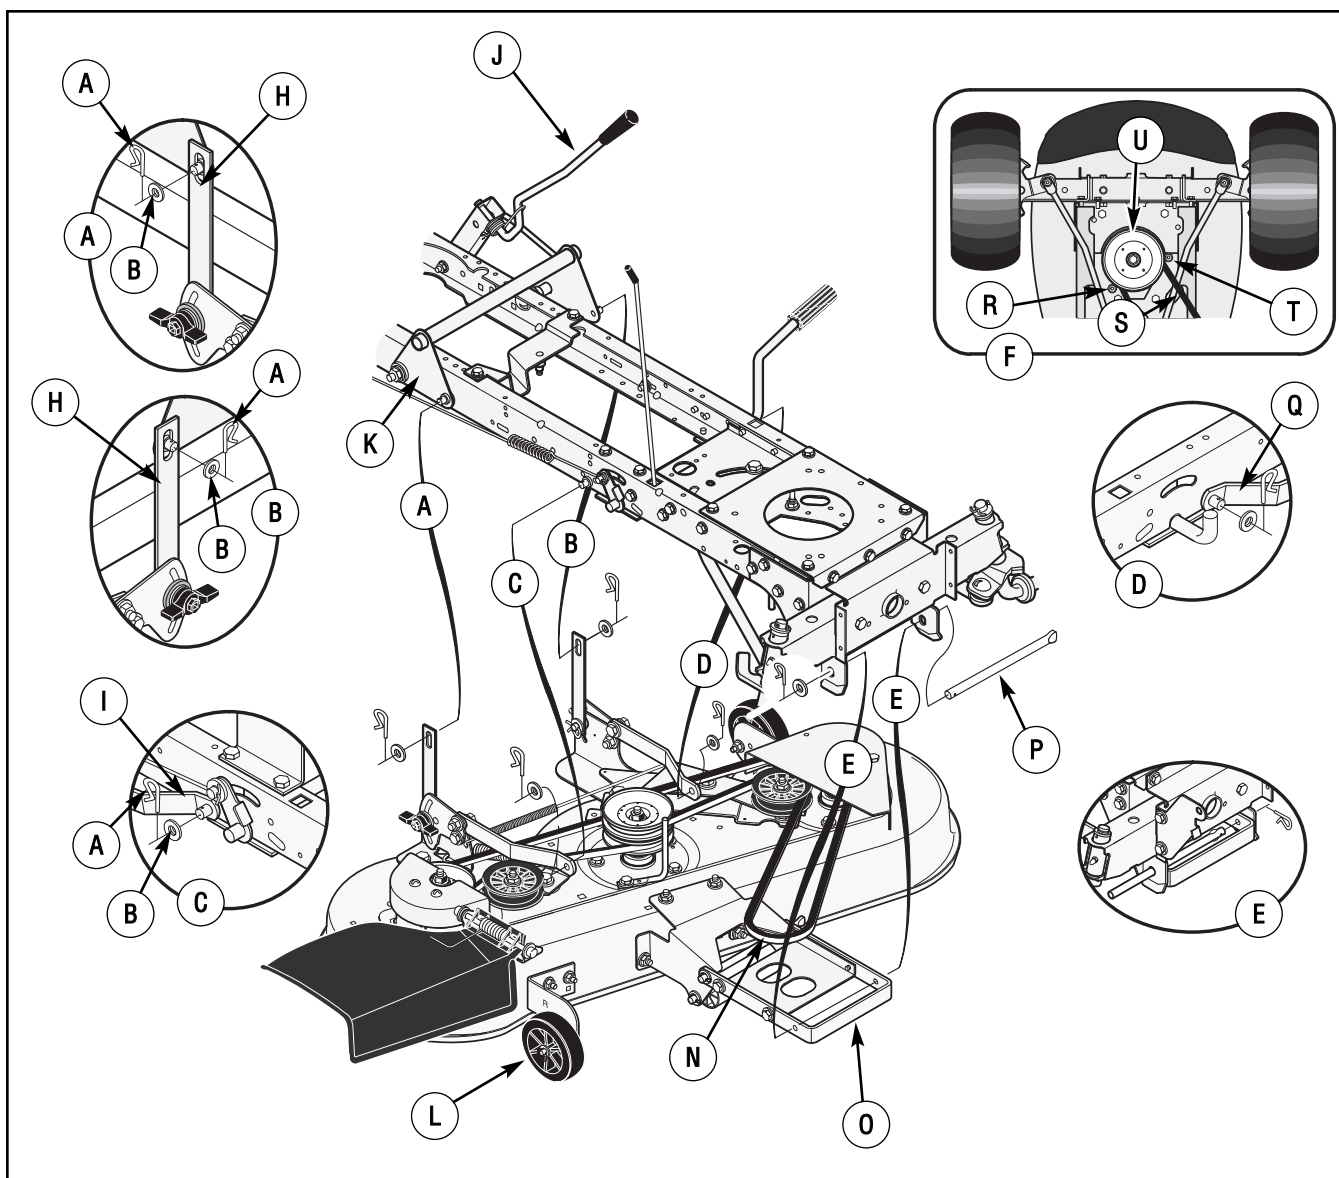

Figure 31: Mower deck assembly
3. Remove the hair pins and the washers from the **adjuster arms** (Figure 31). See illustrations "C" and "D".